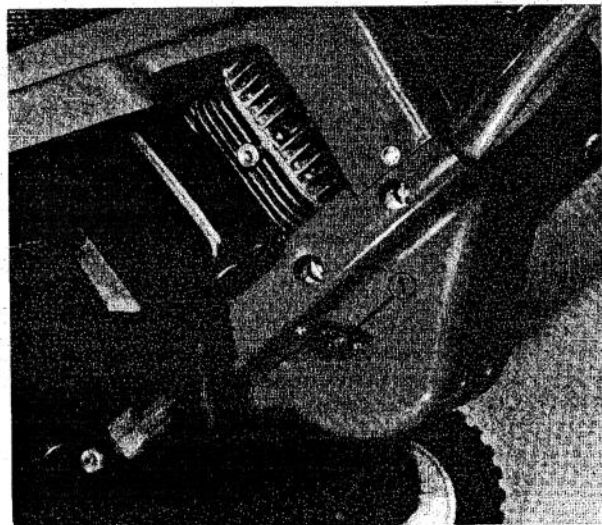

Figure 19
1. Power Adjusting Screw (Fig. 19) — Close screw by gently rotating it clockwise until a slight seating resistance is felt. Next, rotate power adjusting screw $7/8$ of a turn counterclockwise.
2. Idle Adjusting Screw (Fig. 19) — Close screw by gently rotating it clockwise until a slight seating resistance is felt. Next, rotate idle adjusting screw 1 full turn — 360° — counterclockwise.